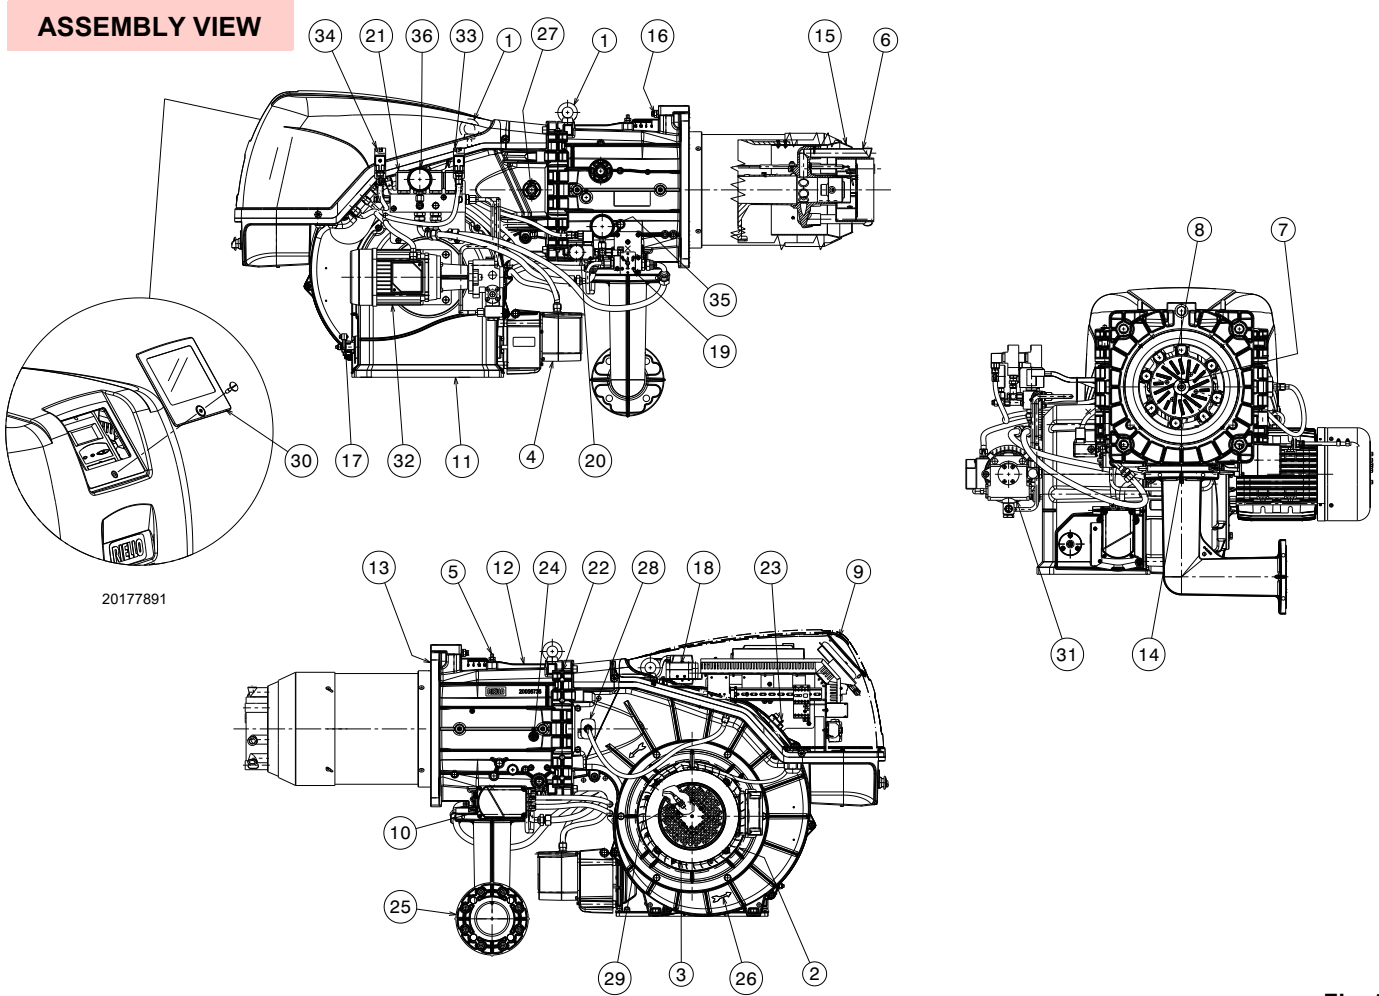

Fig. 5
- (1) Reference conditions: Ambient temperature 20°C - Gas temperature 15°C - Barometric pressure 1013 mbar - Altitude 0 m a.s.l.
(2) Pressure at the test point of the pressure switch 5)(Fig. 5) with zero pressure in the combustion chamber and at maximum burner output.
(3) Sound pressure measured in manufacturer's combustion laboratory, with burner operating on test boiler and at maximum rated output. The sound power is measured with the "Free Field" method, as per EN 15036, and according to an accurate "Accuracy: Category 3", as described by EN ISO 3746".